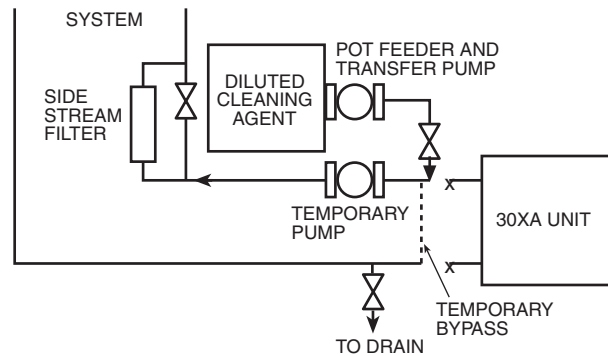

Fig. 32 — Cleaning Using a Side Stream Filter
- c. A side stream filter is recommended (see Fig. 32 during the cleaning process). Filter side flow rate should be enough to filter the entire water volume every 3 to 4 hours. Change filters as often as necessary during the cleaning process.